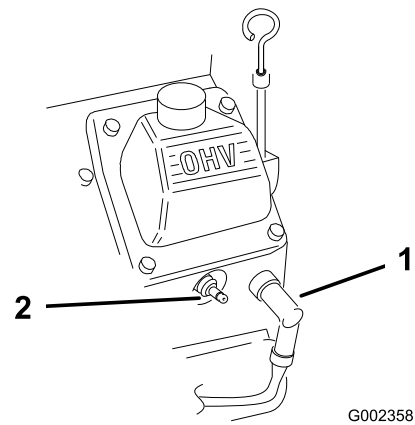

Figure 28
2. Disconnect the spark-plug wires from the spark plugs (Figure 28).
3. Connect the spark-plug wires to the spark plugs (Figure 28).